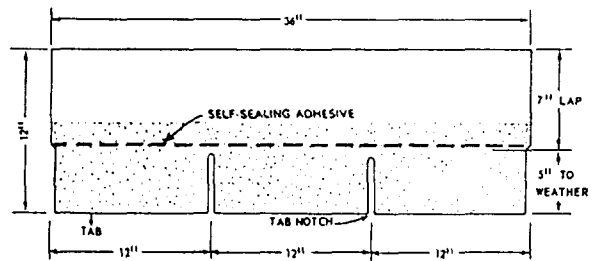

Figure 3-22.-A typical 12- by 36-inch shingle.
**Strip.**— One of the most common shapes of asphalt or fiberglass shingles is a 12- by 36-inch strip (fig. 3-22) with the exposed surface cut or scored to resemble three 9-by 12- inch shingles. These are called strip shingles. They are usually laid with 5 inches exposed to the weather. A lap of 2 to 3 inches is usually provided over the upper edge of the shingle in the course directly below. This is called the head lap.